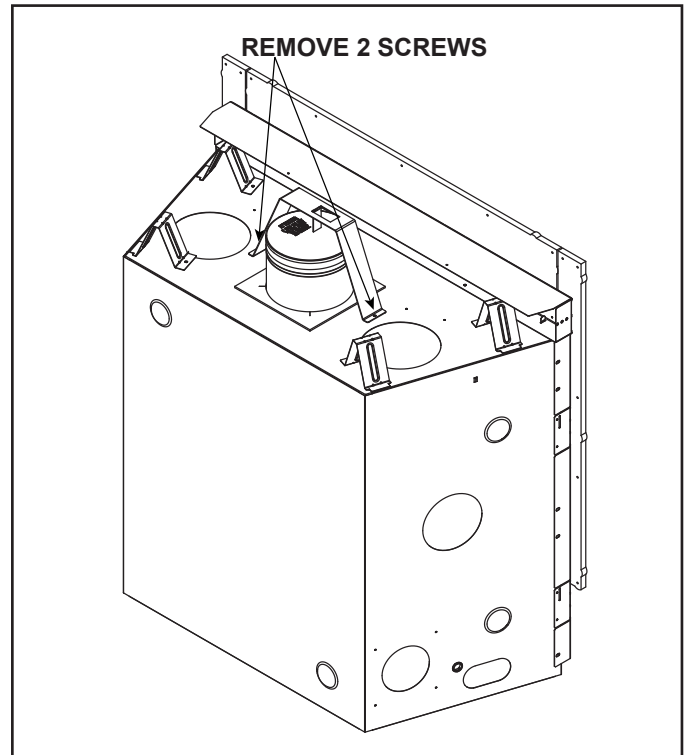

Figure 6.3 JADE32IN-B - Shipping Support in Shipping Position
1. Remove two screws to remove shipping support. Discard shipping support. See Figure 6.3.